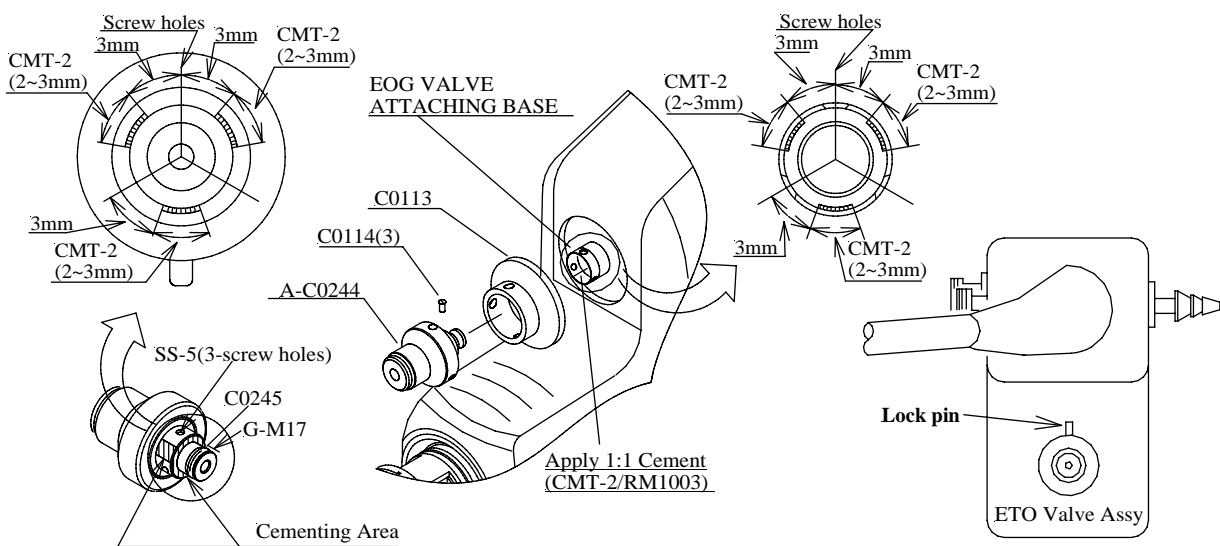

Fig.5-4-6
- c) Apply cement (CMT-2/RM1003) to the ETO Valve Assy and EOG Valve Attaching Nut (C0113) as shown in Fig.5-4-6.